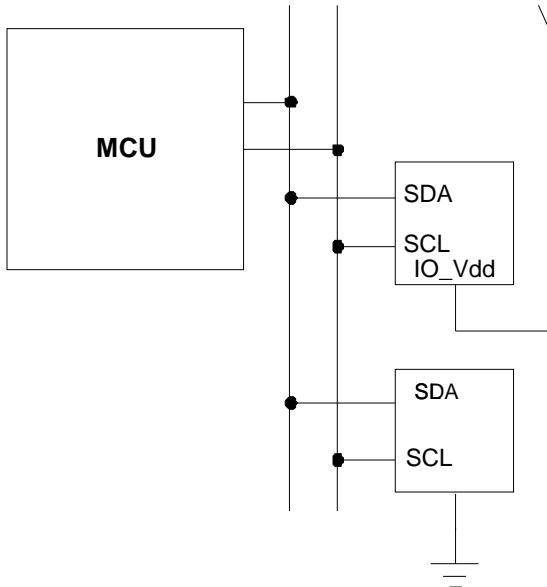

Figure 1. Multiple KX022 I²C Connection
Transactions on the I²C bus begin after the Master transmits a start condition (S), which is defined as a high-to-low transition on the data line while the SCL line is held high. The bus is considered busy after this condition. The next byte of data transmitted after the start condition contains the Slave Address (SAD) in the seven MSBs (Most Significant Bits), and the LSB (Least Significant Bit) tells whether the Master will be receiving data '1' from the Slave or transmitting data '0' to the Slave. When a Slave Address is sent, each device on the bus compares the seven MSBs with its internally stored address. If they match, the device considers itself addressed by the Master. The KX022's Slave Address is comprised of a programmable part and a fixed part, which allows for connection of multiple KX022's to the same I²C bus. The Slave Address associated with the KX022 is 001111X, where the programmable bit, X, is determined by the assignment of ADDR (pin 1) to GND or IO_Vdd. Figure 1 above shows how two KX022's would be implemented on an I²C bus.